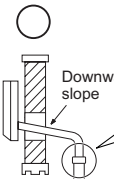

Fig. 1
- The drain hose should point downward for easy drain flow. (Fig. 1)